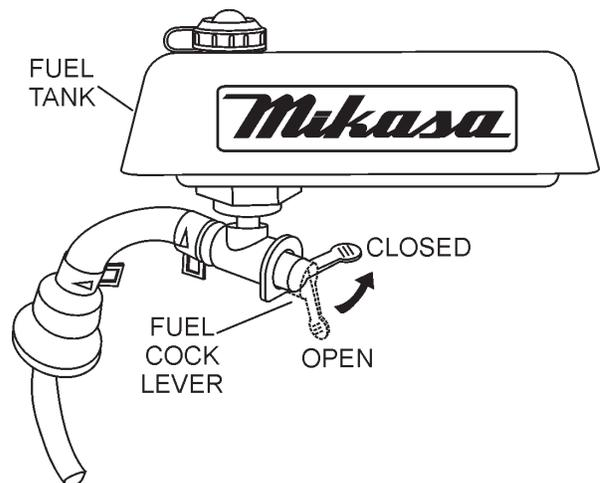

Figure 15. Fuel Shut-OFF Valve (Off Position)
- Close the **fuel shut-off valve** (Figure 15) by moving the fuel cock lever to the **CLOSED** position.